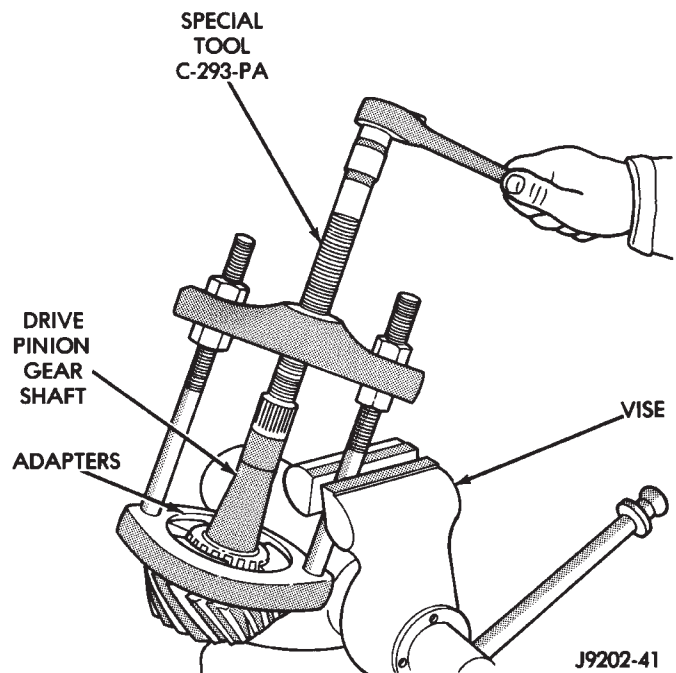

Fig. 37 Inner Bearing Removal
(8) Remove the inner bearing from the pinion with Puller C-293-PA and Adapter C-293-39 (Fig. 37).